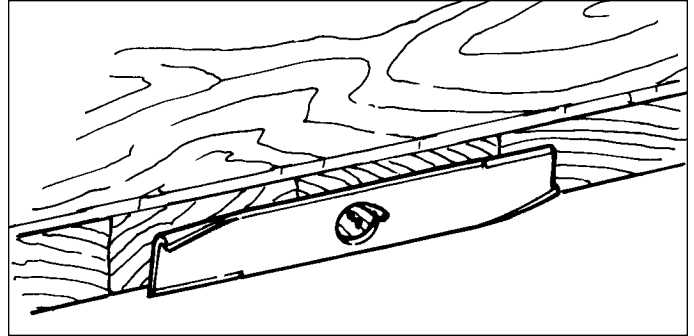

Figure 8. Balancing The Blade
5. Balance the blade as shown in Figure 8. Center the blades' hole on a nail lubricated with a drop of oil. A balanced blade will remain level.